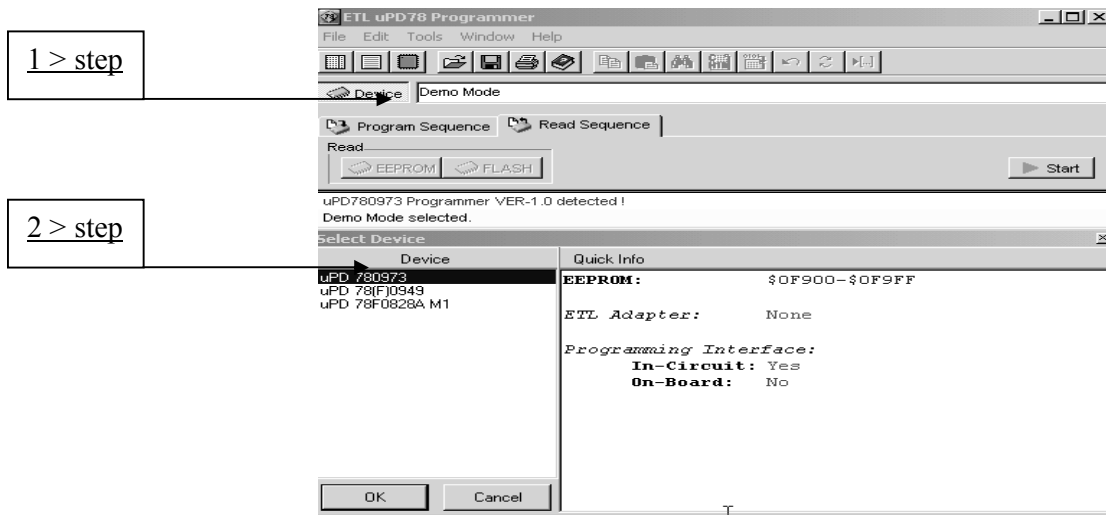

Figure 2
- Follow next steps (see Figure 2, 3, 4):